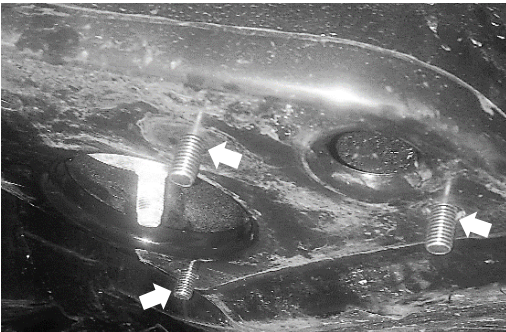

Figure 3
2. Insert three (3) of the **M10x25mm Carriage Bolts** into the **Front Bolt Spacers**, then insert them through the frame hole below the body mount (**Refer to Figure 2**), and out of the three frame holes as shown in **Figure 3**. Ensure that the spacers are sitting flat inside the frame structure and that the bolts are coming straight out of the holes (this may require some adjusting).